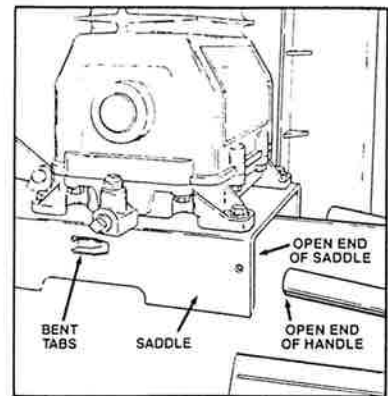
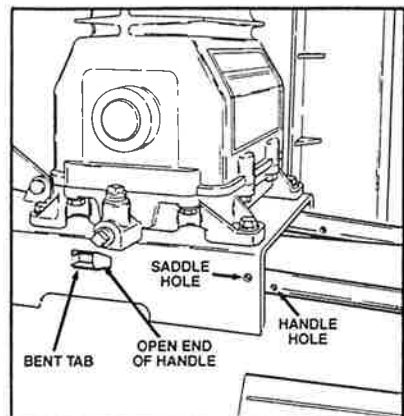

FIG. 1
FIG. 2
1. Insert the open end of the handle under the saddle (Fig. 1). Looking in from the open end of the saddle, position the handle towards the two bent tabs, on the inside walls of the saddle. *Slowly* push the open ends of the handle onto both tabs at the same time (Fig. 2). Continue pushing the handle into the saddle until the holes on the side of the saddle and handle are in line.